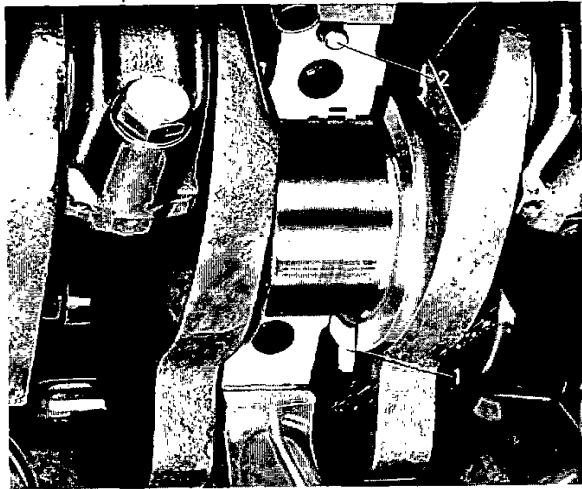

Fig. 86. Pilot slot (1) and locating pin for main bearing cap (2).
4. Fit the thrust washers to the centre main bearing (pilot bearing). Location recesses ensure that the washers can only be fitted one way (fig. 86).